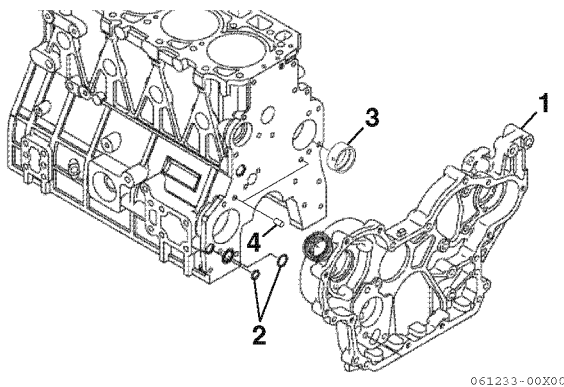
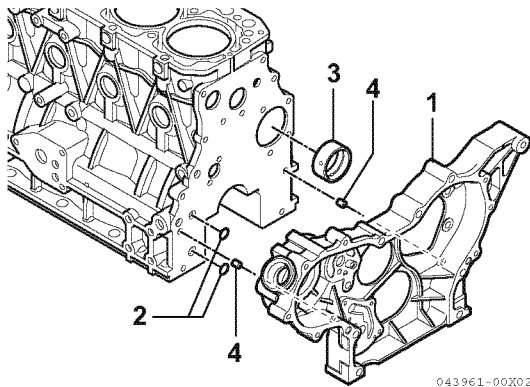

Figure 6-97
Figure 6-98
1. If removed, install a new camshaft bushing (**Figure 6-97** and **Figure 6-98**, (3)) using the appropriate service tool.
3. **4TNV98C, 4TNV98CT:** Install two new O-rings (**Figure 6-97**, (2)) and two pins (**Figure 6-97**, (4)) in the cylinder block.
4. **3TNV88C - 4TNV86CT:** Reinstall the dowels (**Figure 6-98**, (4)) and two new O-rings (**Figure 6-98**, (2)).
5. Reinstall the gear case (**Figure 6-97**, (1)) or front plate (**Figure 6-98**, (1)). Tighten the bolts to the specified torque.